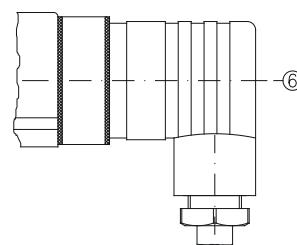

Fig. 10
- ↳ Plug the cable socket ② on the connector ① and tighten the central screw ⑥ (→ Fig. 10).